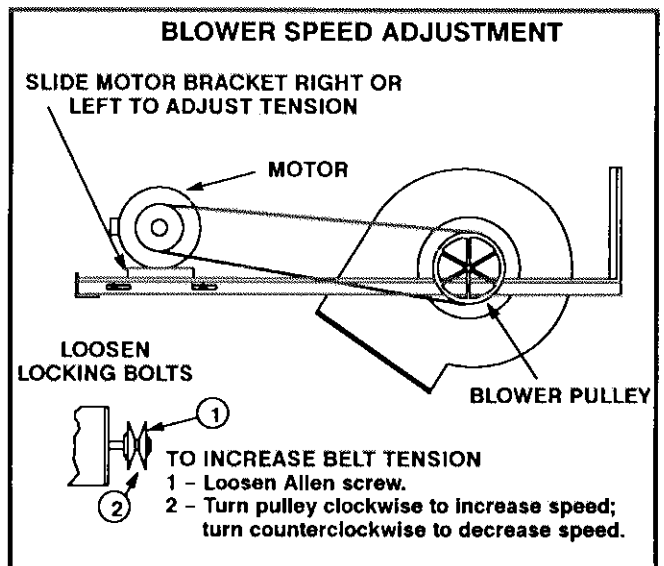

FIGURE 11
- 5- The CFM can be adjusted at the motor pulley. Loosen the allen screw. Turn adjustable sheave clockwise to increase unit CFM. Turn counterclockwise to decrease unit CFM. See figure 11.
Maximum life and wear can be obtained from belts only if proper pulley alignment and belt tension are maintained. Initially, tension new belt(s) a after 24 - 48 hour period of operation. Belt(s) will stretch and seat in grooves during this period. To adjust belt tension, loosen four locking bolts. Turn adjusting screws and slide motor up or down. See figure 11.